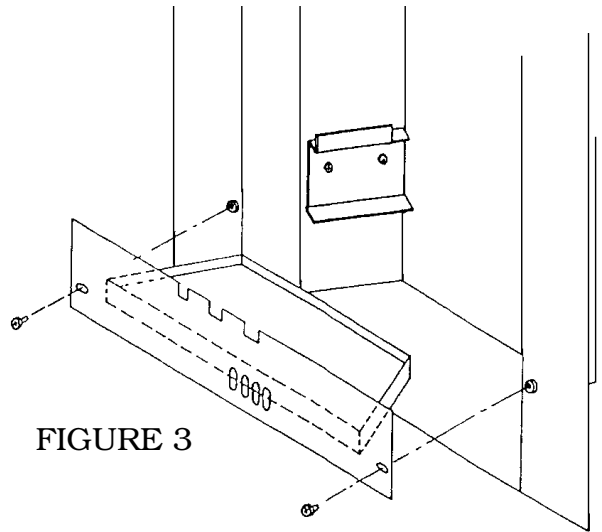

FIGURE 3
4. BURNER UNIT ASSEMBLY. (See Figure 3).